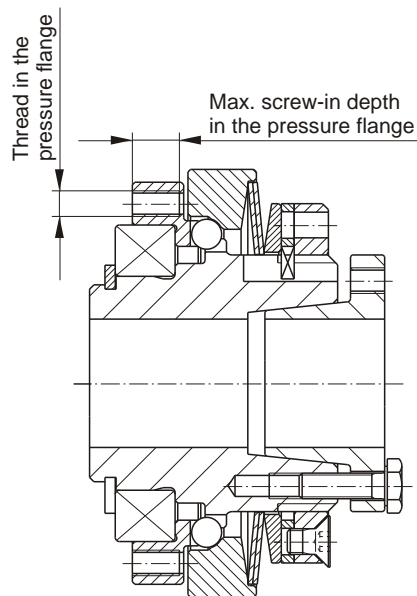

Fig. 3
Please observe the maximum permitted screw-in depth in the pressure flange (2) as well as the connection dimensions "a" and "e" for the output elements, see Figs. 3 or 4 and Table 5.